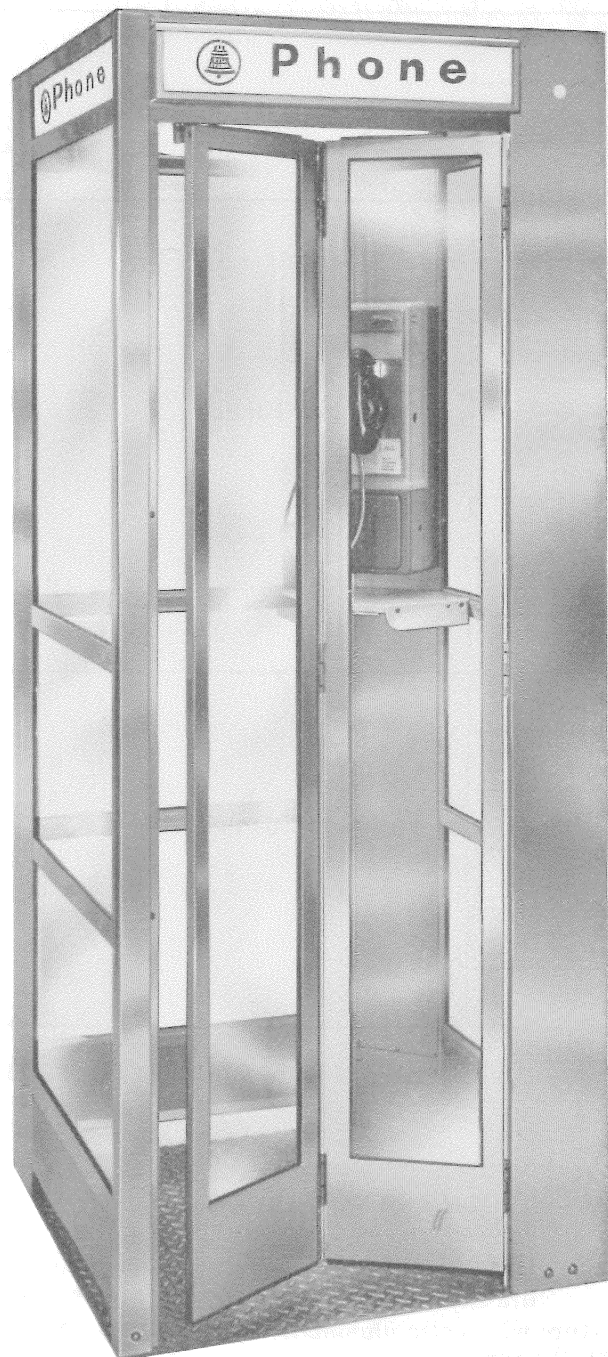

Fig. 1—KS-19580 Airlight II Booth
2.01 The KS-19580 booth (Fig. 1) is an outdoor aluminum and glass telephone booth designed for single or multiple side-by-side installations. It is available in polished aluminum (List 60), gold (List 61), and bronze (List 62).